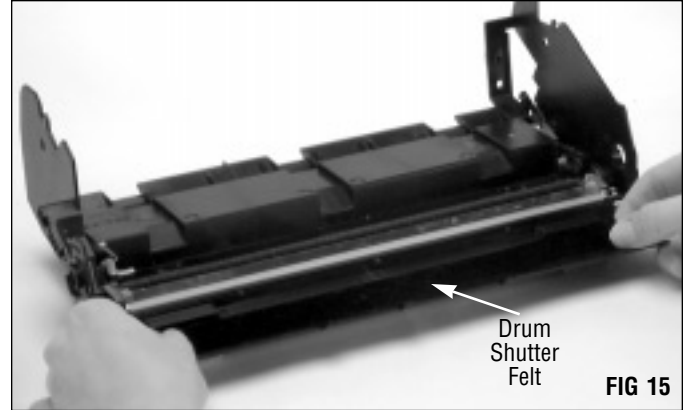

FIG 15
1. Install a drum shutter felt (FIG 15).